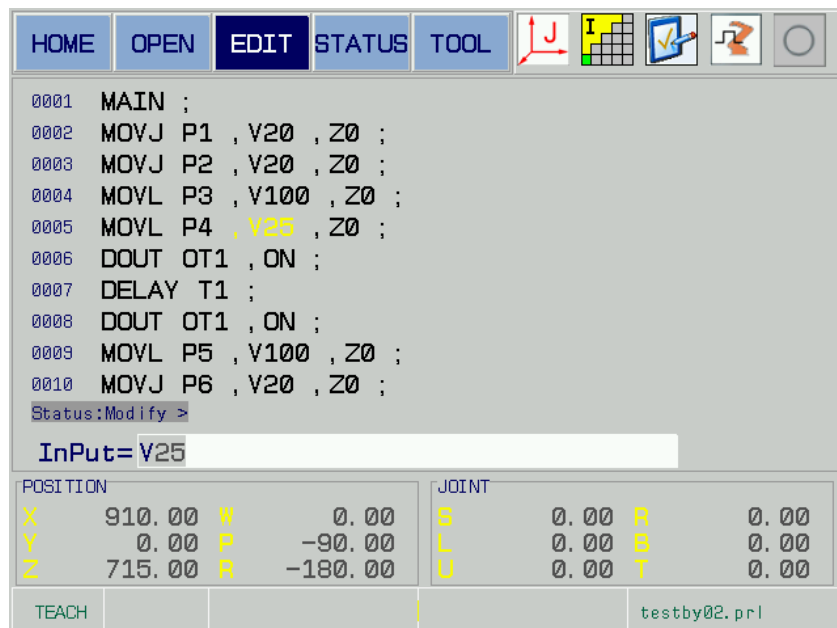

Fig. 5-33
2. Enter the Modify mode by [ALTER], move the cursor to the speed position V by left/right direction button; input 25 by number key, and then complete the modification speed by [INPUT]; refer to the Fig. 5-33.